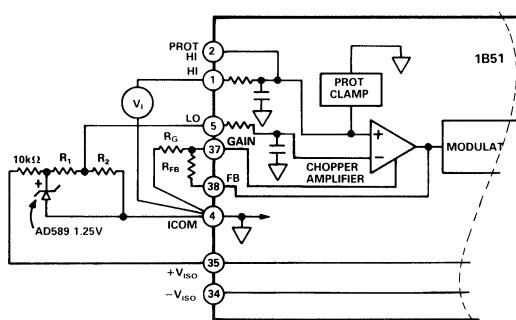

Figure 1. Input Gain Setting and Zero Suppression
The gain of the 1B51 is controlled on the input side by a pair of user provided resistors (see Figure 1). A feedback resistor of between $10k\Omega$ and $20k\Omega$ is required between the feedback pin (FB) and the gain pin. The gain setting resistor is connected between the gain pin and input side common (ICOM).
Since the 1B51 is a differential input device, true input referred zero suppression can be accomplished (see Figure 1). A voltage reference powered by the input side power supplies is applied to the LO terminal. Since the transfer function is